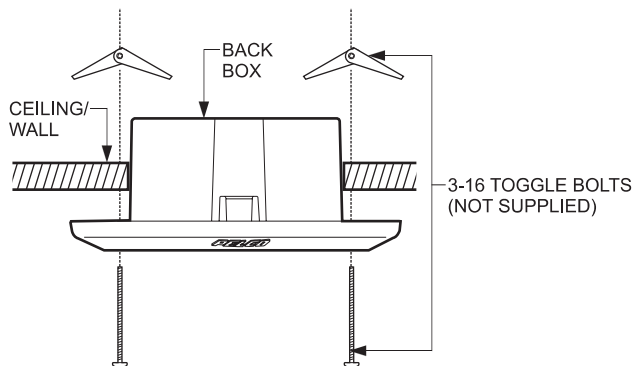

Figure 6. In-Ceiling Installation to a Fixed Ceiling or Wall
1. Cut a 4-inch diameter hole in the ceiling/wall (refer to Figure 6 on page 11).